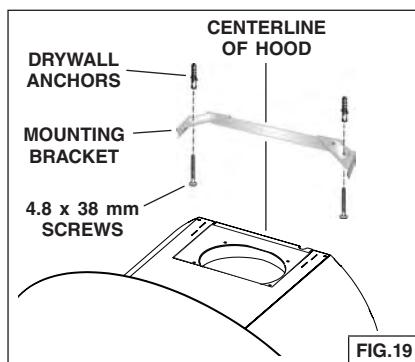
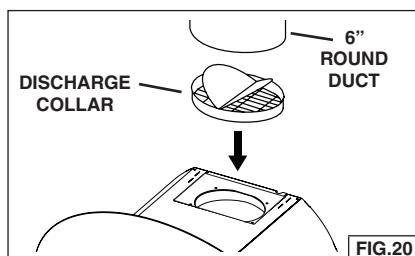

FIG.19
FIG.20
18. **Carefully** center the mounting bracket directly over the range hood location. Fig. 19.
19. Secure the bracket assembly to the ceiling using (2) 4.8 x 38 mm mounting screws and drywall anchors. Make sure the bracket is pushed into the corner, tight against the wall and centered over the hood.
20. Press discharge collar / damper into blower duct connector. Fig. 20.